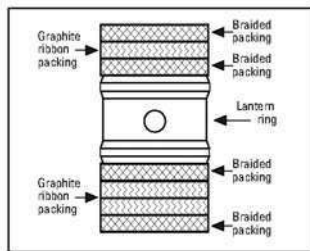

Figure 5.1E Lantern ring configuration
3. For braided packing rings: Figures 5.1E and F use special flexible removal tools (cork screw tip) Figure 5.1A screw into the packing ring and pull out.
For graphite ribbon packing Figures 5.1E and 5.1F with special C-saw tool Figure 5.1B cut through the packings, apply downward pressure as you work the tool in a back and forth motion. Blow out packing remains using instrument air or suck out with a vacuum